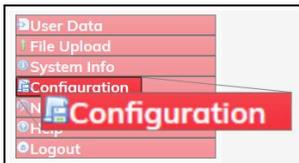

Figure 258: Configuration link
4. On the **Menu** list, click the **Configuration** link. Figure 258